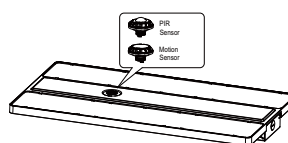

Figure 10
Step2. Twist-lock the DC sensor to the base to make it work properly, use a remote control to adjust the working mode as per demand. (Figure 10)